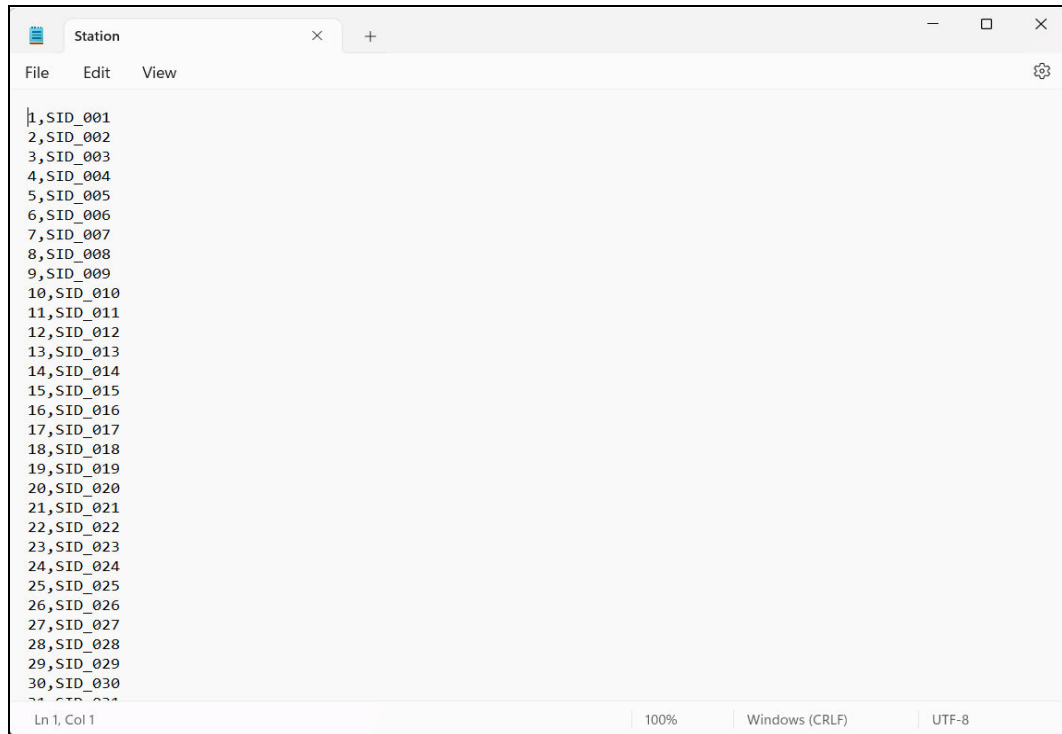

Figure 48: Station ID .csv File Opened in Notepad
2. To create a new ID list, click the appropriate **Export csv file** button. In the example file in Figure 48, the Station ID's **Export csv file** button was clicked.